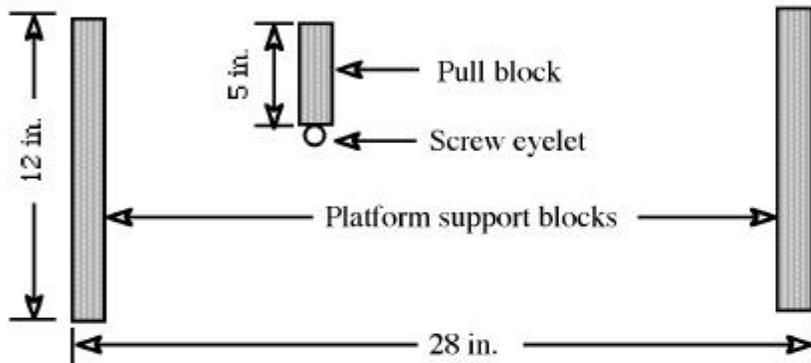

Figure 11: Top view of 2 x 4 bridge support blocks and pull block
- f) Platform supports - Cut two 12-inch lengths from a 2 x 4 or a 2 x 6-inch piece of scrap. Make sure both pieces are the same width and length (see Figures 11 & 12).
- g) Pull out block - Cut a 4-inch-long section of 2 x 4 or 2 x 6 (whichever you used for the platform supports). Drill a small hole in the center of one end of the block. Then screw a round eyelet hook into the block. Attach a 2-foot length of string to the eyelet (see Figures 11 & 12).
- a) Place the two 2 x 4 (or two 2 x 6) supports under each end of the platform as shown in Figure 11.
- b) Place the pullout block and string as shown in Figures 11, 12, and 13.